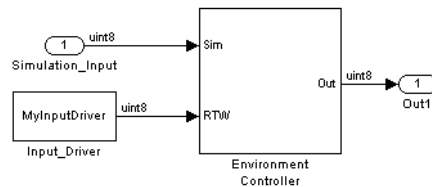

Figure 10-8: Subsystem Implements Pass-Through Logic via Environment Controller
You can implement a pass-through driver by creating a subsystem like that shown in Figure 10-8. The subsystem contains an S-function device driver block (for an input device such as an ADC), and an Environment Controller that implements pass-through behavior.
- If the driver subsystem is built via the right-click **Build Subsystem...** menu option, storage for inputs and outputs to and from the subsystem is declared in the containing model's external input (rtU) and output (rtY) structures. For example, in the subsystem shown in Figure 10-8, storage would be allocated for the port labelled Simulation_Input.